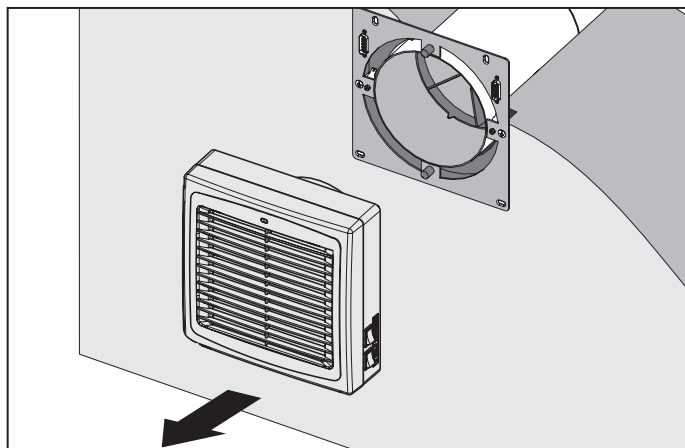

Fig. 22. Ventilation unit removal
- Pull the ventilation unit to remove it, fig. 22.